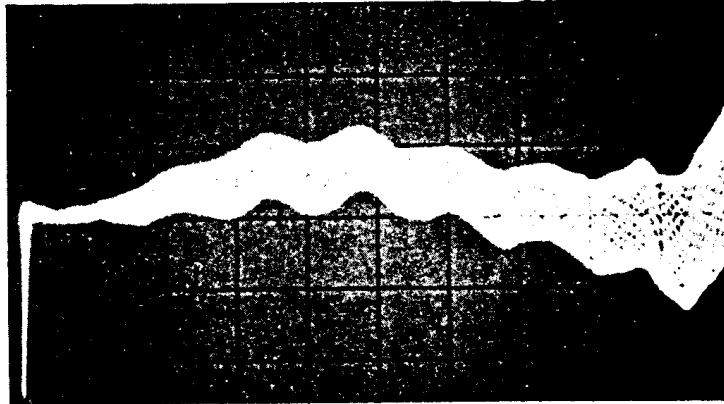

Figure 12 *Typical Oscilloscope Display*
1. Set sweep oscillator for single-frequency (CW) operation at the center of the band under test.
2. Locate a maximum in the standing-wave pattern. A maximum is the widest portion of the display (see Figure 12 for a typical display).